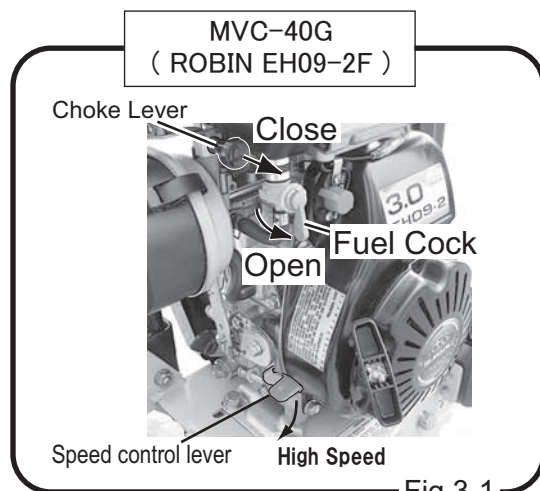

Fig.3-1
- 1 Turn the lever of the fuel cock downward and feed fuel. (Figs. 3-1, 3-2, 3-3)
- 3 Open the speed control lever half. (Fig.3-1, 3-2)
When it is cold or the engine does not start easily, close the choke lever. (Figs. 3-1 , 3-2)
- 5 When the engine has started, return the speed control lever to the low speed position immediately. Listening to the sound of the explosion, return the choke lever gradually to the fully open condition. (Fig.3-1 , 3-2)
- 1 If you open the speed control lever at a stroke, this machine starts vibration and moves forward. If you open it slowly, the clutch may slip, so open the speed control lever at a stroke without hesitation. (Figs. 3-1 , 3-2)
Close the lever of the fuel cock. (Fig. 3-1, 3-2, 3-3)